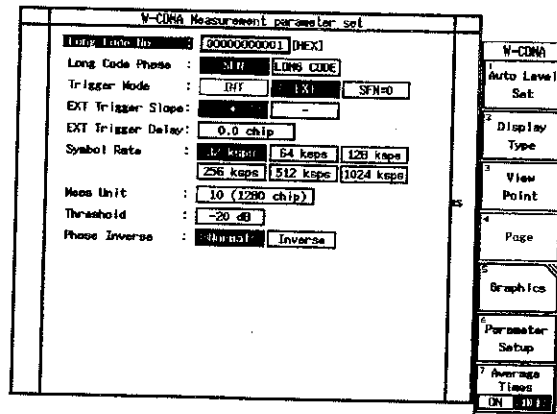

Figure 3-31 Setting of Parameter for W-CDMA Measurement Test
5. On the R3267/3273, set the parameter referring Figure 3-31.